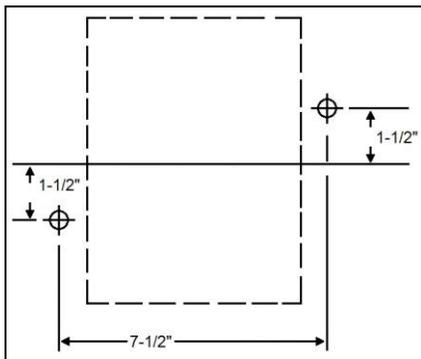

Figure 1
2. Referring to **Figure 1**, center punch the location of the two hold-down holes, then check for any gas or brake lines, frame supports, or any type of brackets that may be damaged or hinder assembly. Drill the two holes using an 11/32" diameter drill bit.